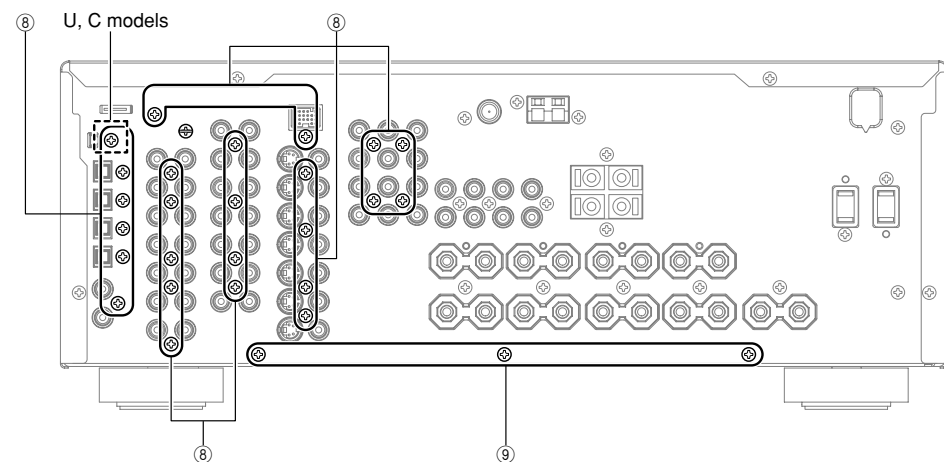
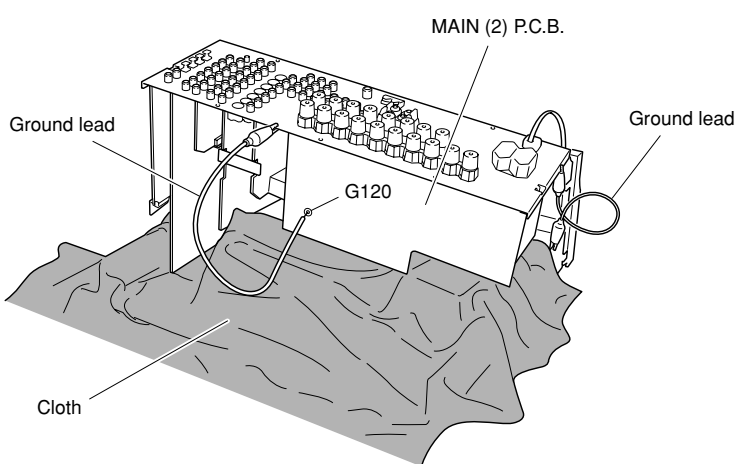

Fig. 4
Fig. 6
- Remove 25 screws (U, C models)/24 screws (A model) (8). (Fig. 4)
- Remove 3 screws (9). (Fig. 4)
- Remove 1 screw (10), 1 screw (11) and 1 screw (12).
- Holding the rear panel, raise the MAIN (2) P.C.B. so that its bottom face can be seen. (Fig. 6)